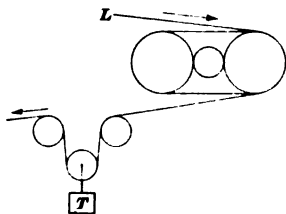
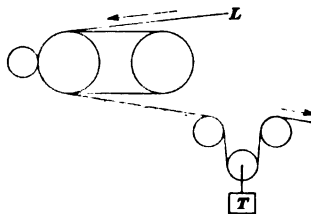

FIG. 1.
FIG. 2.
(321) Figs. 1 and 2 show two methods of driving on an endless-rope haulage. In Fig. 1, one driving pinion drives both drums at once through attached spur wheels; and in Fig. 2, the same pinion drives only one drum, the other being loose. In both cases *T* represents the tension arrangement. Which of these two arrangements will require the greater amount of tension at *T* to do the same work?
ANS.—The tension balance shown at *T* (Figs. 1 and 2) serves a triple purpose. (1) It compensates for the lengthening and shortening of the rope, due to expan-
sion and contraction. (2) It obviates undue stresses being brought upon the rope, suddenly, by accident. (3) It gives to the running-off or tail rope the tension necessary to prevent any slipping on the drum, under the load *L*. For the same work, the tendency to slip is proportional to the arc of contact of the rope upon the driver. In Fig. 1, both drums act as drivers, and hence present double the arc of contact shown in Fig. 2, where one drum only is a driver. Hence, there is an increased tendency to slipping in the arrangement shown in Fig. 2, to obviate which the tension balance must be heavier.